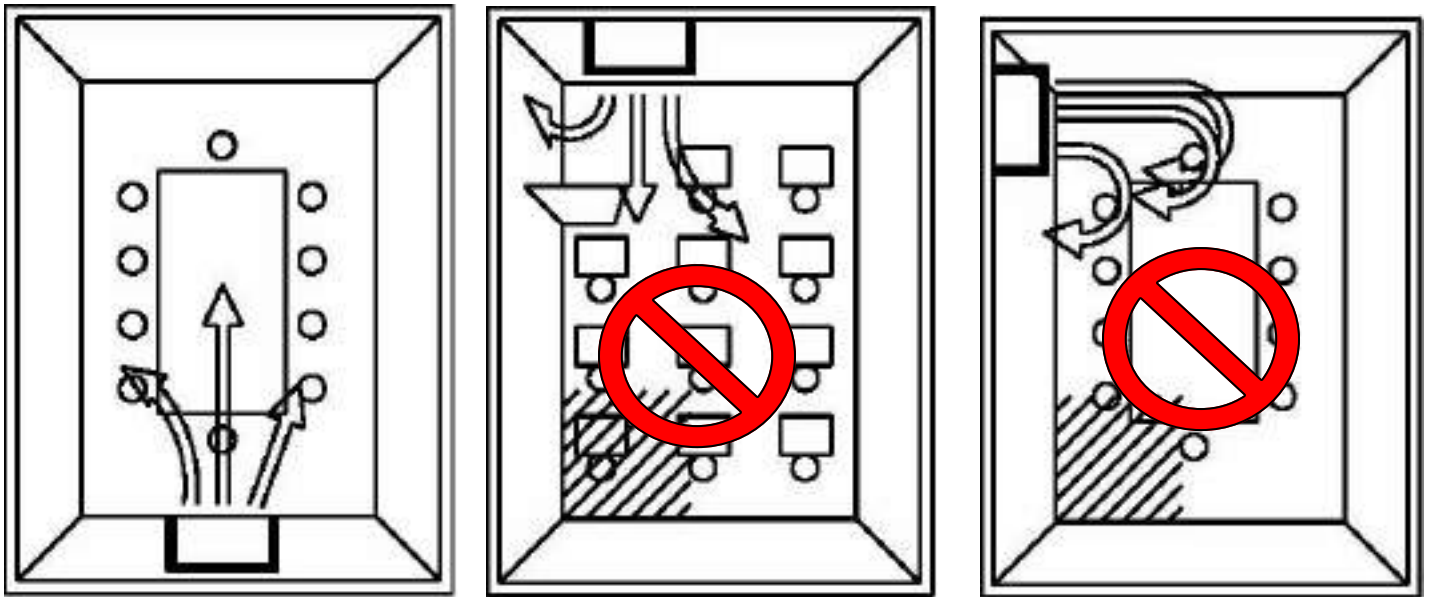

Figure 1
- Choose a position near the wall as close to the center of the room as possible. See Figure 1